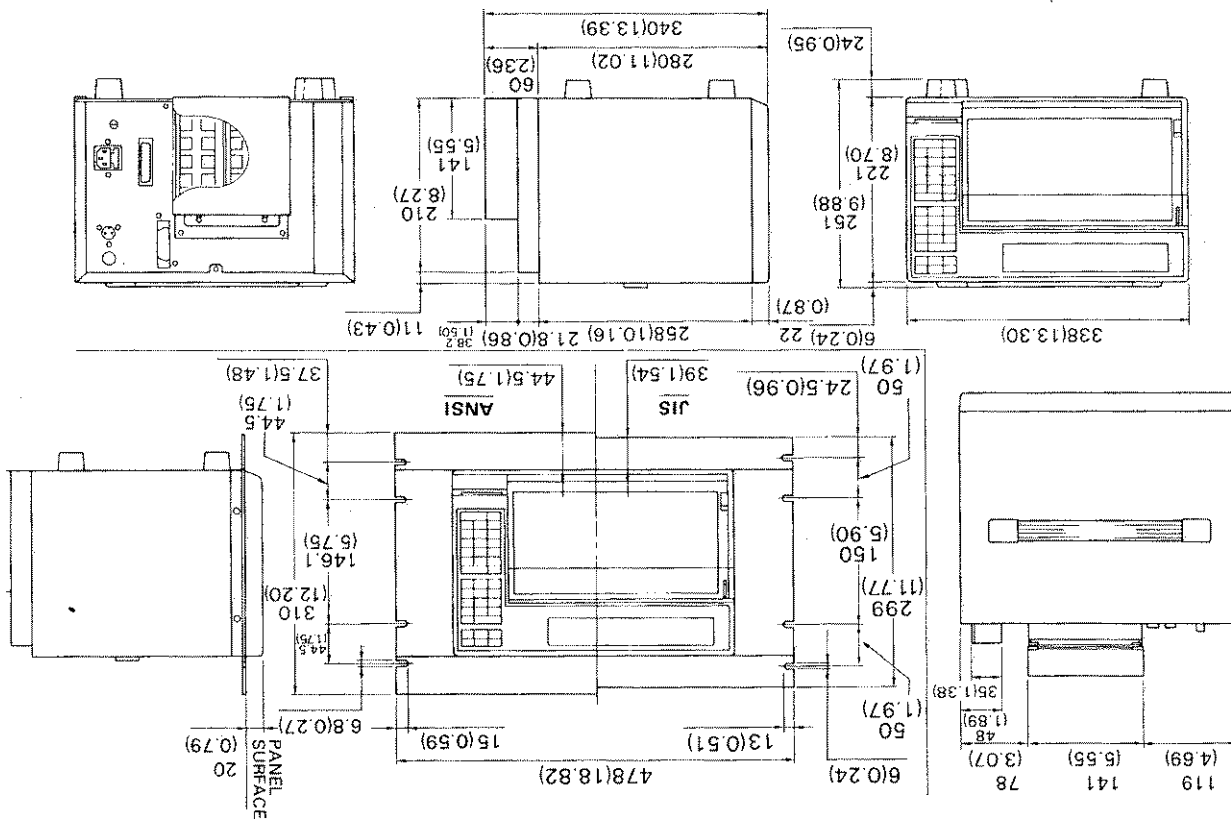

Figure 4.1 HRI300 External Dimensions and Rack Mounting
- 3) Figure 4.1 shows the external dimensions and rack mounting dimensions for the HRI300.